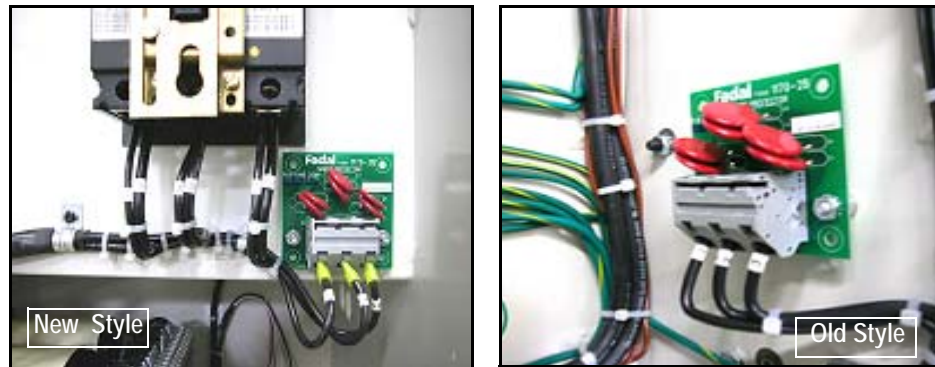

Figure 3-24: MOV Surge Suppressor Board
1. Locate the MOV Surge Suppressor Board (see figure 3-24).